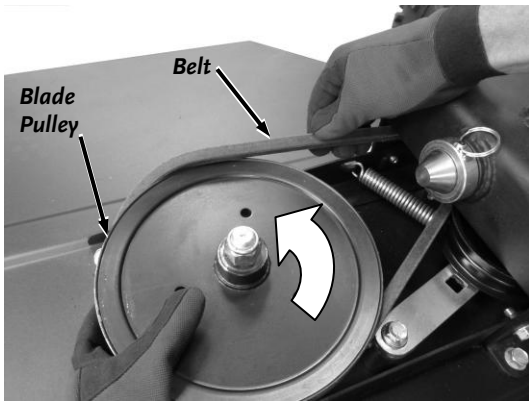

Figure 26
3. Rotate the Blade Pulley as you roll the belt off (**Figure 26**).